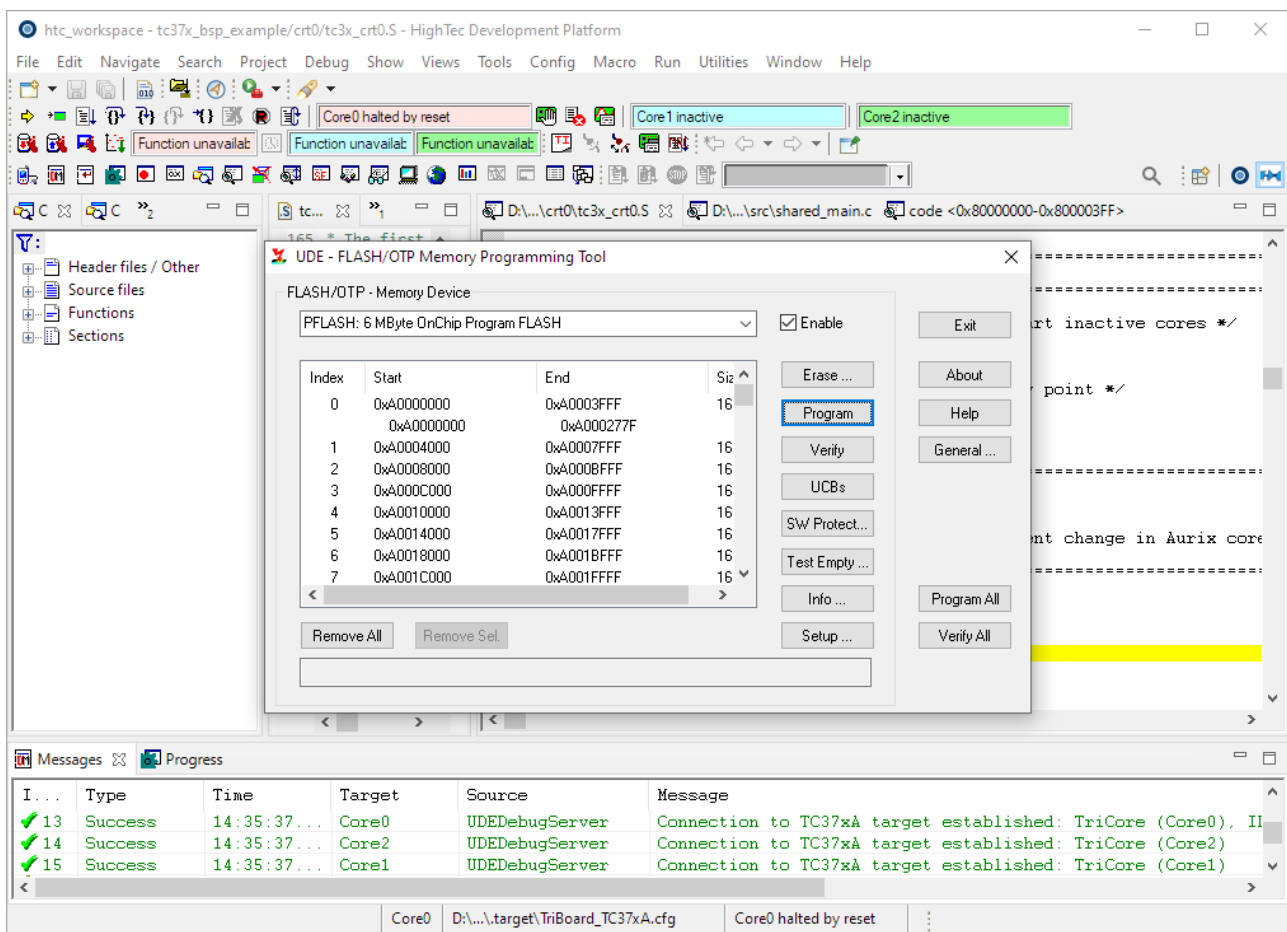

Figure 38 UDE Memory Programming Tool
6. If you built an **iROM** version of your application, the **UDE Memory Programming Tool** will appear after launching the **UDE perspective** (Figure 38).